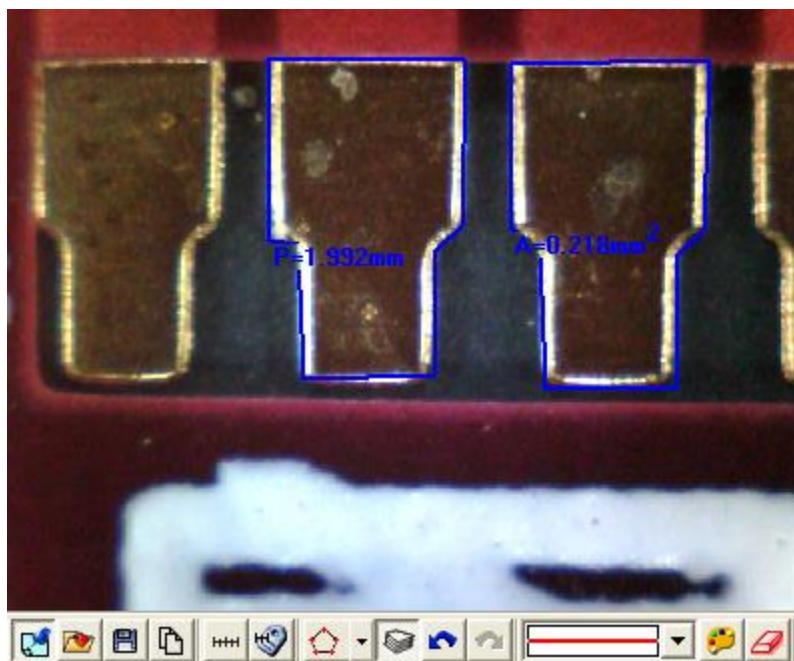

Fig 5-73 Polygon
- (10) Polygon : A polygon is a shape that is made up of many sides and has only line segments. Choose “  ” to measure the area and Perimeter, See Fig 5-73, the calculated polygon P (Perimeter) is 1.992mm, A(Area) is 0.218 mm² .